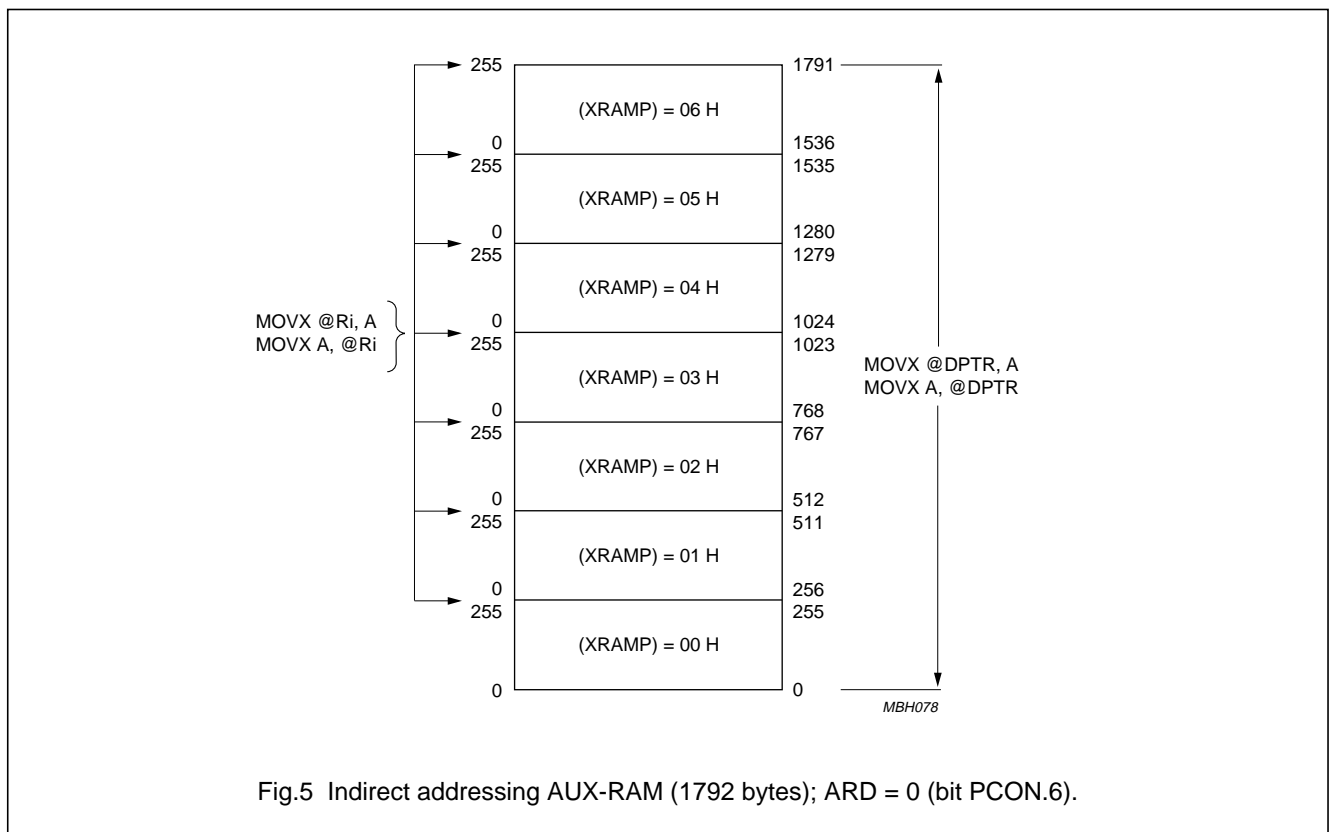

Fig.5 Indirect addressing AUX-RAM (1792 bytes); $ARD = 0$ (bit PCON.6).
- AUX-RAM 0 to 1791 is indirectly addressable via page register (XRAMP) and MOVX-Ri instructions, unless it is disabled by setting ARD = 1 (see Fig.5). When executing from internal Program Memory, an access to AUX-RAM 0 to 1791 will not affect the ports P0, P2, P3.6 and P3.7.